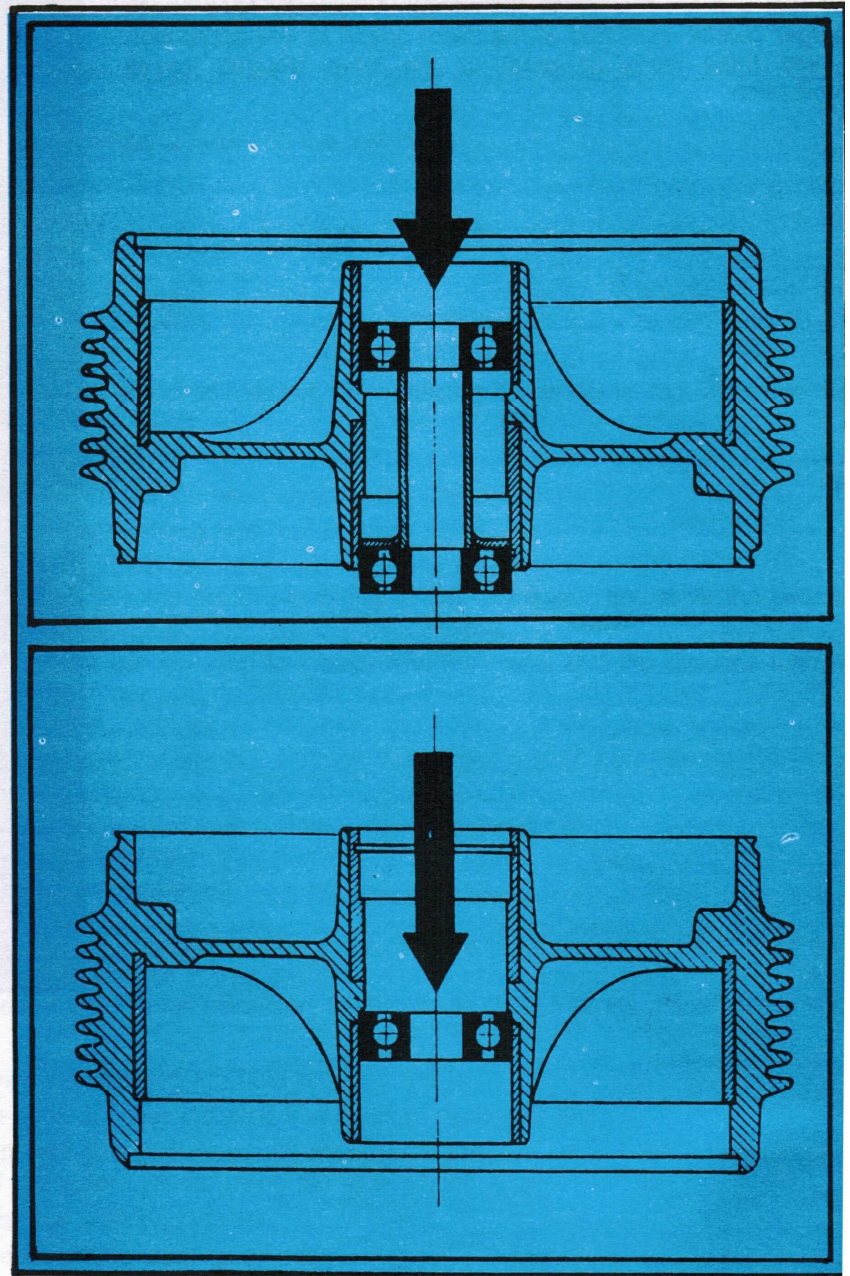

Fig. 40
- drive out the remaining bearing from the opposite side to the brake drum (Fig. 40).